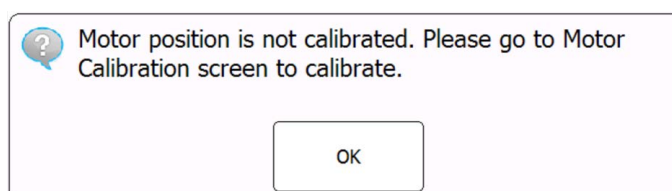

Figure 45 Notification when motor position is not calibrated
A motor calibration (MC) is a procedure that designates the location of each well that is scanned by the optical modules for each individual slot. Instruments are provided with the motor calibration step completed, and additional motor calibration runs are not generally required after receipt of the instrument. If, however, you see a notification on the instrument touchscreen alerting you that motor calibration is required (Figure 45), press **OK**, then follow the on-screen prompts.